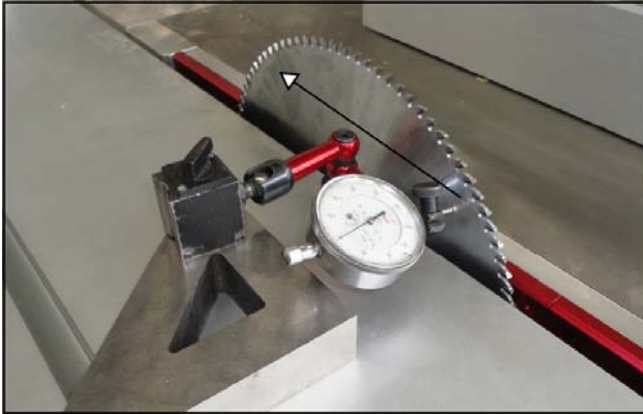

Fig.34
- 2, slide the sliding table and use a dial indicator to Measure the parallelism, **Fig.34**